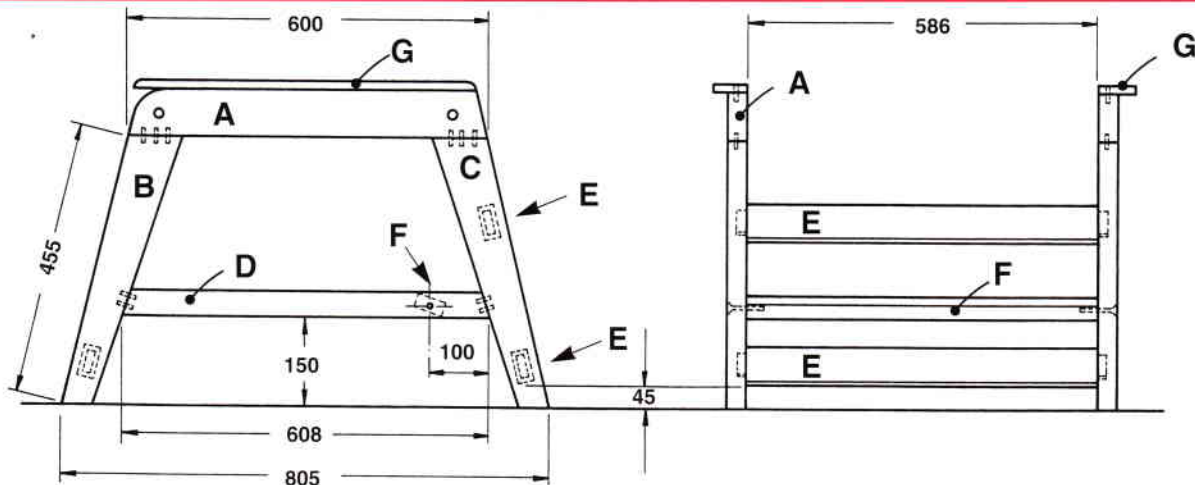
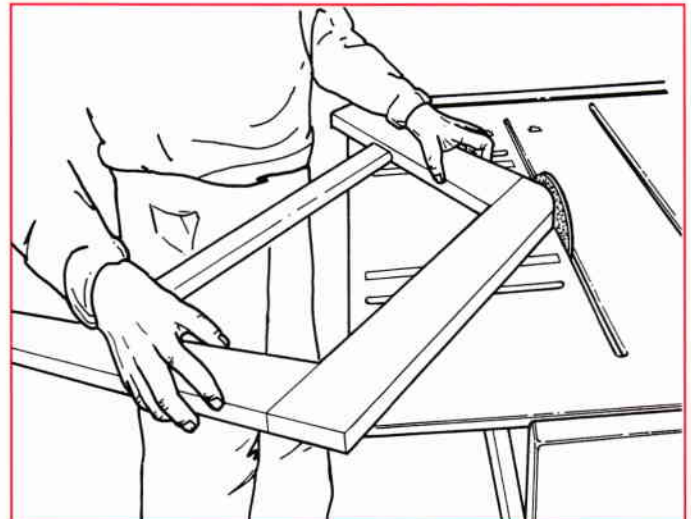

FIGURE 1: LEG FRAME ASSEMBLY
FIGURE 7
Then fit the workstops and cut components **(E and F)**, and the armrests **(G)** (from 92 x 19mm material). See **Figure 1**.
7 Test-fit components **(A, B and C)** of each side together and lay the assemblies on a flat workbench. Slide the leg brace **(D)** up between the legs until it just fits snugly without forcing the legs apart. Check that the meeting faces at the tops of the legs are still snugly together then mark the positions of the dowels on the side faces at the ends of **(D)**. Note that the dowels are square to the angled faces. **(Figure 1)**
9 Using your Sanding Disc round the upper front corner of each leg frame (Figure 7). Also round the top arris of the front and rear of the armrests (G) as shown in Figure 1, holding the armrest on its 19mm edge on the worktable while sanding. Remember when rounding the ends that the armrests are mirror imaged.